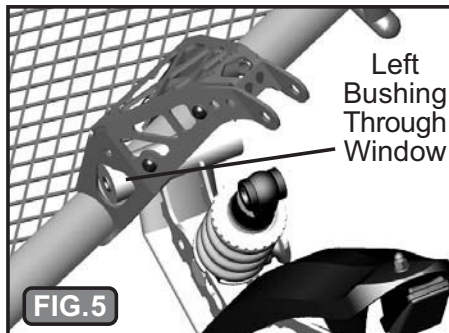

FIG.5
B) Next install the swingarm pivot in the shock tower. The pivot is wider than the shock tower opening and will need to be twisted so the left bushing/side of the swingarm goes through the opening first and exits the left side window as shown in Fig. 5.